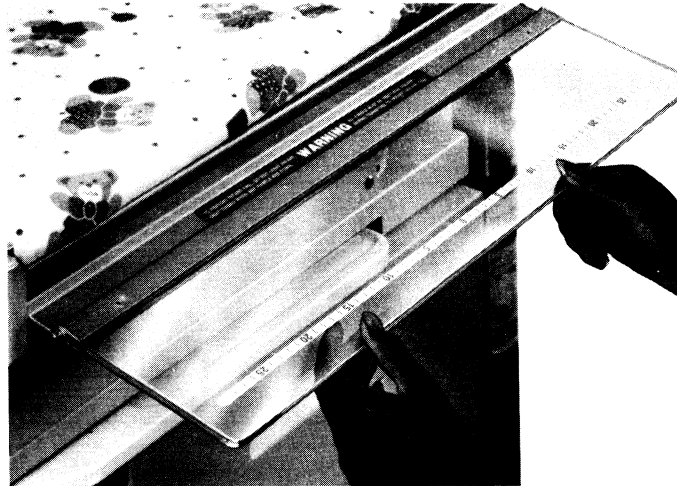

FIGURE 2.3 CHECKING THE BASSINET SIDE PANELS
2. **CHECK THE BASSINET SIDE PANELS** (Figure 2.3) by raising each panel. Pivot it to hang straight down. Return the panel by reversing the procedure. Check that the panel is positively engaged to confine the infant.